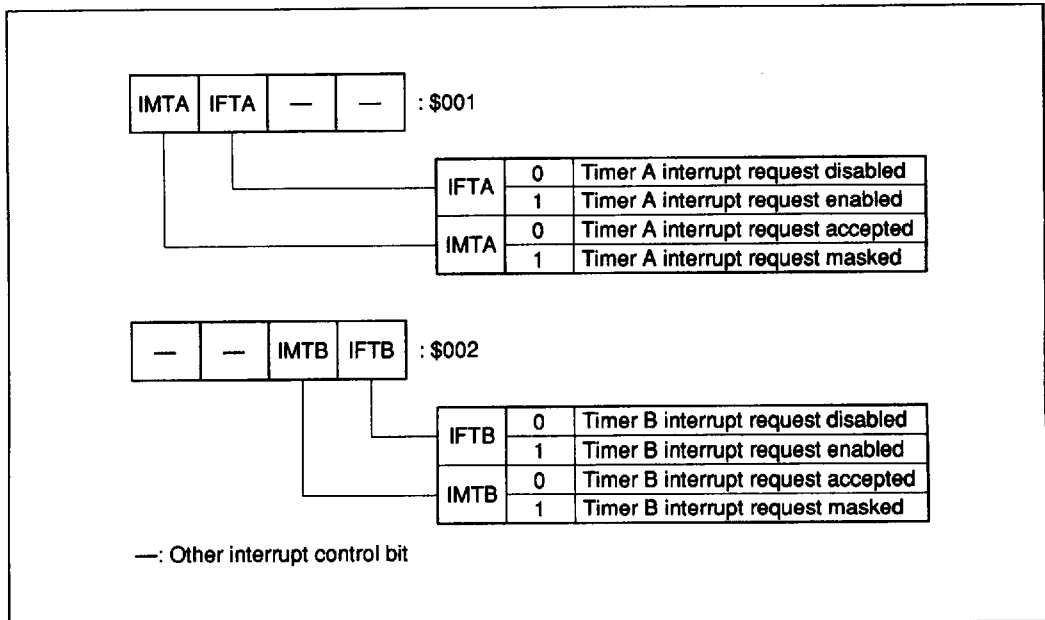

Figure 14 Timer Interrupt Control Bits
**Timer A Interrupt Request Flag (IFTA: \$001, Bit 2):** The timer A interrupt request flag (figure 14) is set by the overflow output of timer A. When the watchdog timer function is selected, the timer interrupt request flag is not set since the MCU is reset by an overflow output.
**Timer A Interrupt Mask (IMTA: \$001, Bit 3):** The timer A interrupt mask (figure 14) prevents an interrupt request from being generated by the timer
**Timer B Interrupt Request Flag (IFTB: \$002, Bit 0):** The timer B interrupt request flag (figure 14) is set by the overflow output of timer B.
**Timer B Interrupt Mask (IMTB: \$002, Bit 1):** The timer B interrupt mask (figure 14) prevents an interrupt request from being generated by the timer B interrupt request flag.